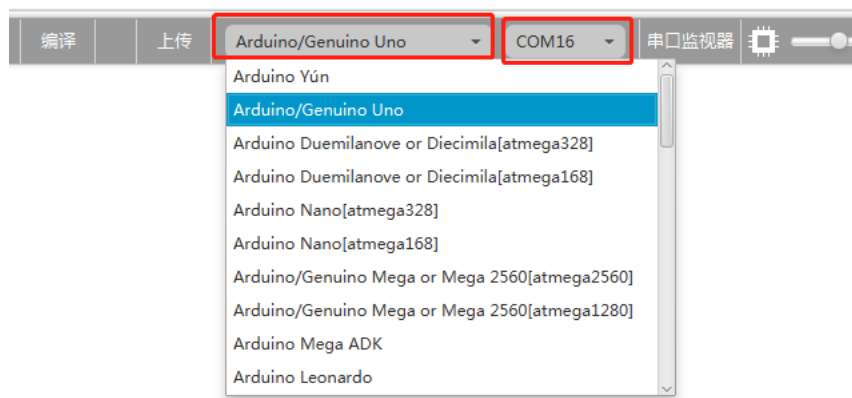

Figure 2-2-1
- 2) Click the drop-down box on the right of "Upload" to select the model of the main console, and then click the second drop-down box on the right to select the USB serial port, as shown in Figure 2-2-1. When the selection is completed, Mixly and Starter-box are successfully connected.